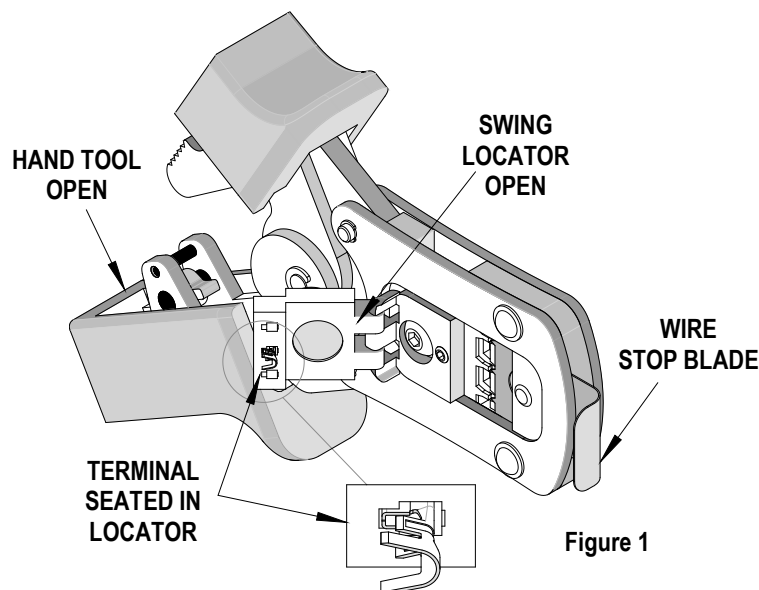

Figure 1
1. With the hand tool in the open position, pivot the terminal locator open by pulling on the locator knob, and lift up on the wire stop blade. See Figure 1.